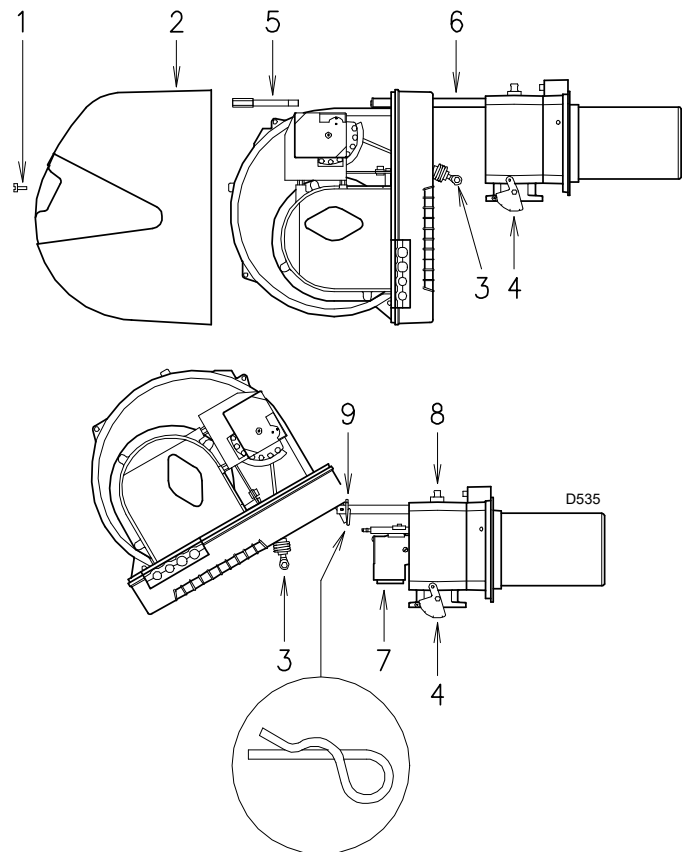

Fig. 34
- remove the screw 1)(Fig. 34) and pull out the hood 2).
Now extract the gas distributor 7) after having removed the screw 8)(Fig. 34).
- Remove the split pin 9)(Fig. 34) and push the burner until it is approx. 100 mm from the pipe coupling. Reconnect the cables and slide in the burner until it comes to a stop. Replace the screws 5) and split pin 9) and carefully pull the probe and electrode cables outwards until they are slightly taut. Reconnect the articulated coupling 3) to the graduated sector 4).